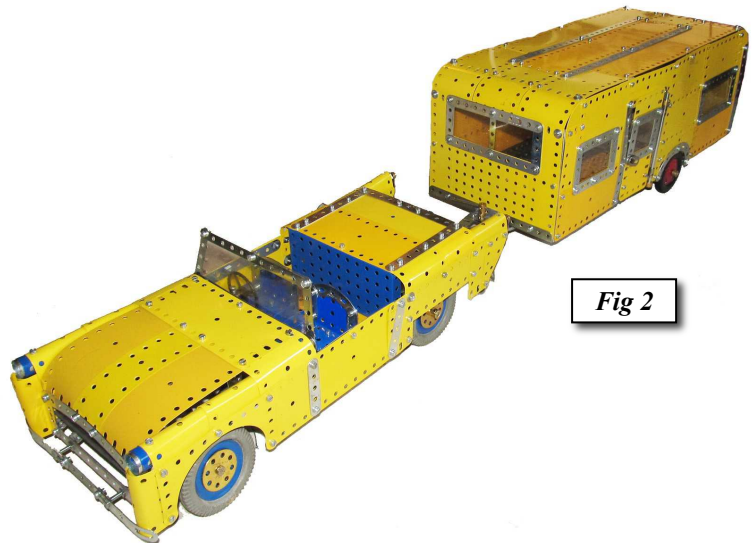

Fig 2
**Anthony Caldwell** had built an excellent model in yellow and blue of a car towing a caravan from a no 9 set. (fig 2) Very nice lines giving the car a 60s look.